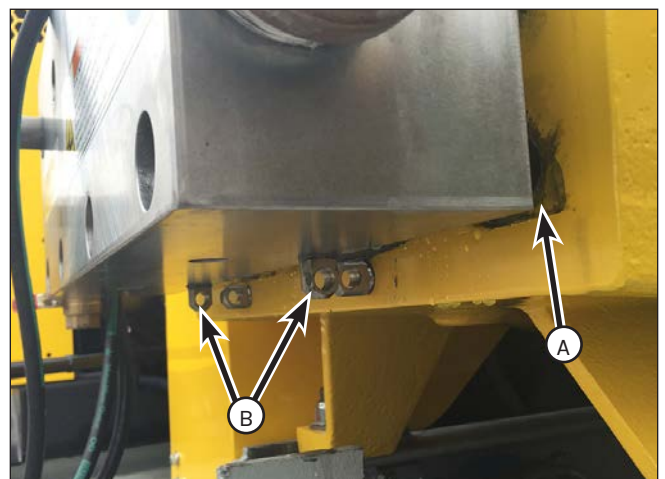

Figure 72: Manifold in Adjustment Position.
- a. Slide the manifold away from the powerframe (or adapter plate) a few inches (Figure 72, A). This will allow room to adjust the threaded trunnions in the bottom of the manifold.
- b. Screw both manifold trunnions (Figure 72, B) in completely and then back them out approximately 2-1/2 turns. Slide the manifold back against the powerframe (or adapter plate).